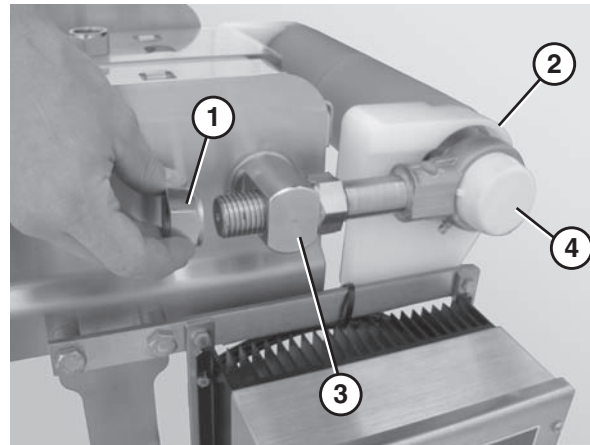

Figure 66
1. Remove the back nuts (Figure 66, item 1) on both idler tail shafts.
2. Slide the idler tail assembly (Figure 66, item 2) out of the take up blocks (Figure 66, item 3).
3. Remove the bearing covers (Figure 66, item 4).